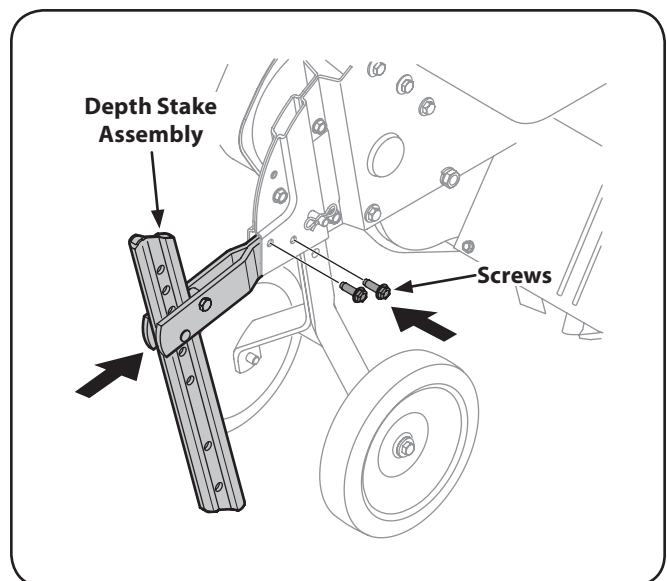

Figure 3-6
- Insert the depth stake assembly into the frame and reinstall the two screws removed earlier. Tighten the hex bolts securely. See Figure 3-6.